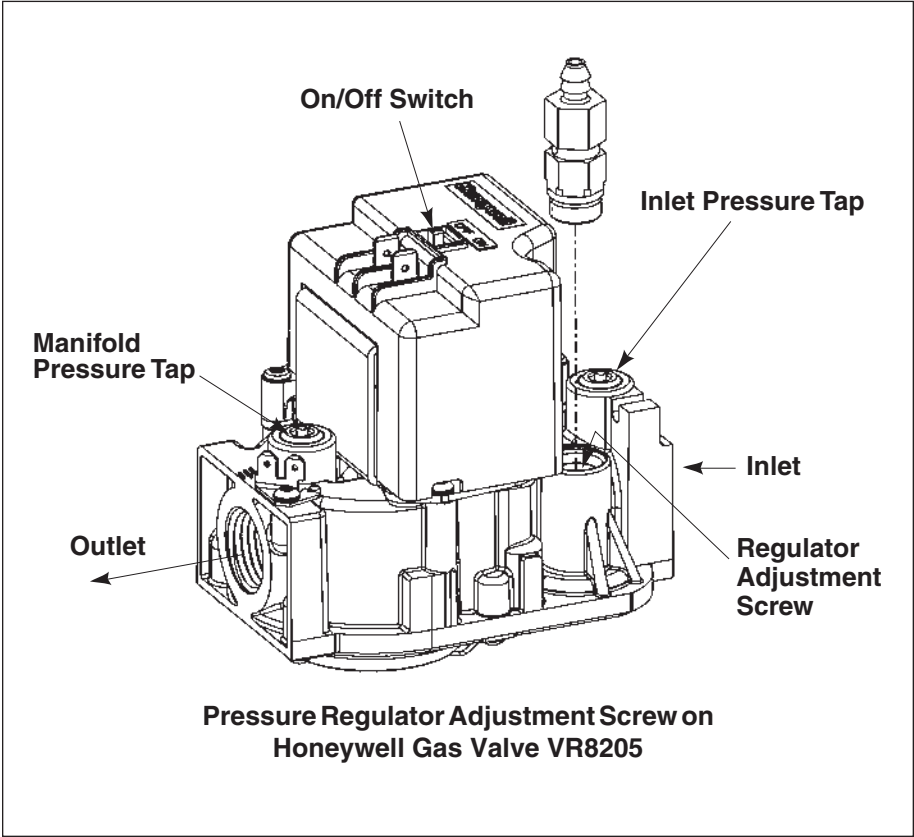

Figure 1
3. Remove the pressure regulator adjustment screw located underneath the cap screw. For condensing furnaces, the Pressure Regulator Adjustment is located underneath the brass fitting (see Figure 1).
1. With a 3/16 inch Allen wrench, remove the manifold pressure tap plug located on the outlet side of the gas valve. Refer to Figure 1.
5. Allow the furnace to operate for three (3) minutes and then check the manifold pressure. Compare the measured value with the value shown in Table 2 and Table 3. If the manifold pressure is not set to the appropriate pressure, then it must be adjusted.
1. If the manifold pressure must be adjusted, remove the protective cap from the top of the gas valve regulator, as shown in Figure 1.